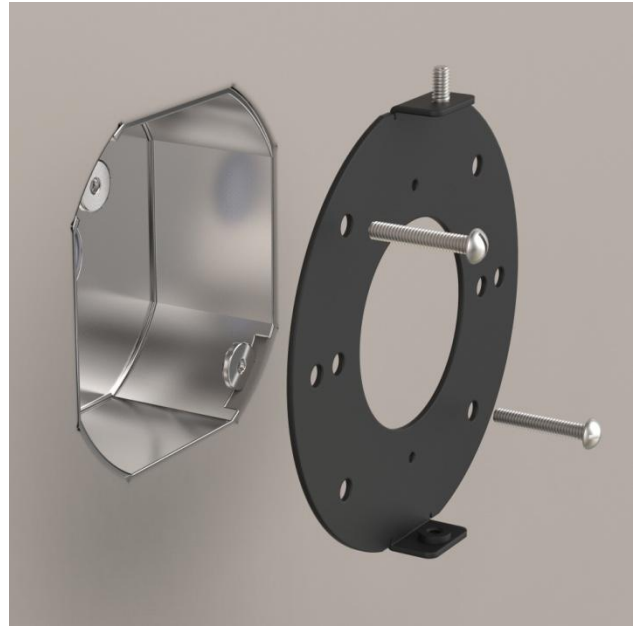

Figure 2
- Secure mounting disk to electrical box with the provided screws (Figure 2)